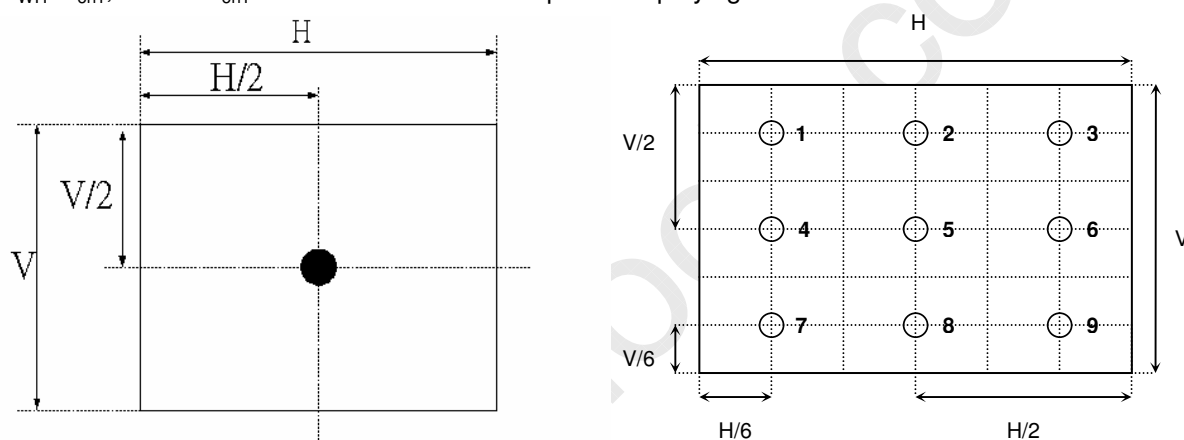

Fig.4-2 Optical measurement point
2. Surface luminance is luminance value at point 1 across the LCD surface 50cm from the surface with all pixels displaying white. From more information see Fig. 4-2. When $V_{DDB} = 24V$, $I_{DDB} = (TBD)$.